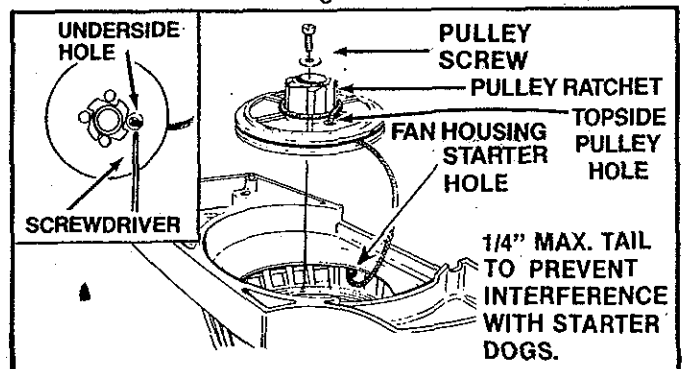

Figure 45
5. Remove the pulley screw in the center of the pulley. Figure 45.
9. Feed the rope through the fan housing and the round starter hole. Figure 45.
10. Snake rope inside pulley, then through the topside pulley hole by pushing the rope from the underside hole with a small round object such as a Phillips screwdriver. See insert, Figure 45.
11. Wrap rope counterclockwise ← around pulley ratchet end and tuck loose end back under rope leaving a 3/8-1/2 inch tail. Pull tightly around ratchet. Figure 45.